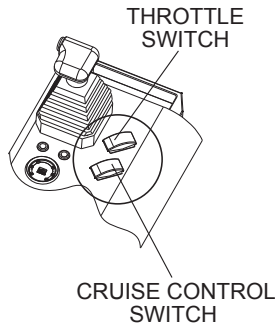

Figure 15. Throttle Switch
1. Each press of the Throttle Switch (Figure 15) steps it from idle to operating speed if operator presence is detected.